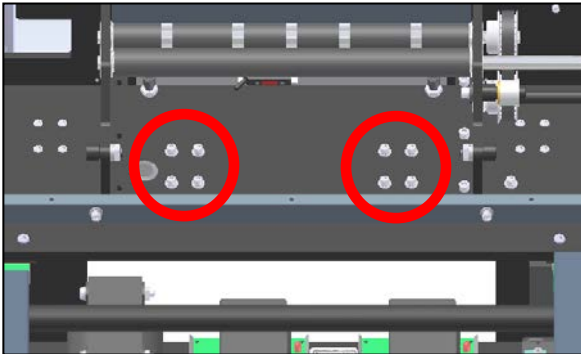

Figure 3-323. Heater Block Mounting Screws
14. Lift the heater block into position, and install the eight mounting screws with lock and flat washers through the holes in the horizontal mounting plate (Figure 3-323). The Teflon tape and heater band should be aligned with the opening in the stripper plate at proper orientation.